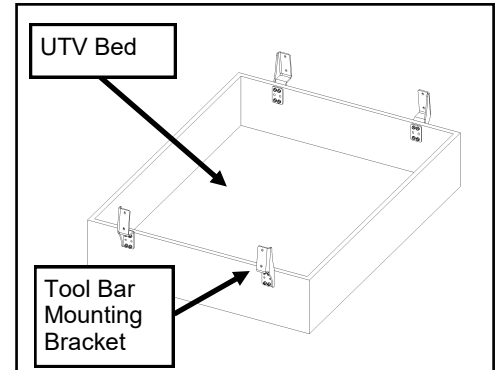

Fig. 1
- See fig. 1. Install (4) Tool Bar mounting brackets using the installation instructions included with the 1UTVTB kit.